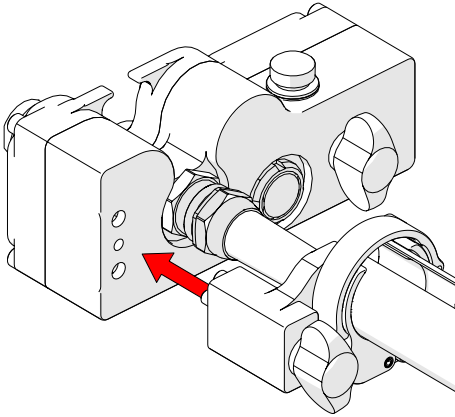

Fig. 279 - Align with umbilical
1. Align the cable management clamp with the appropriate mounting position on the umbilical (Fig. 279).